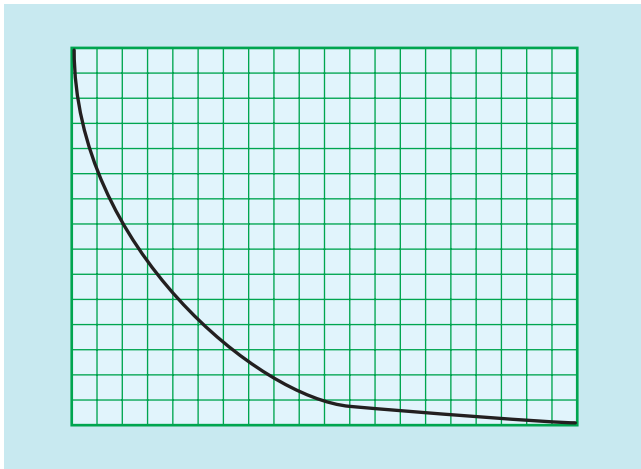
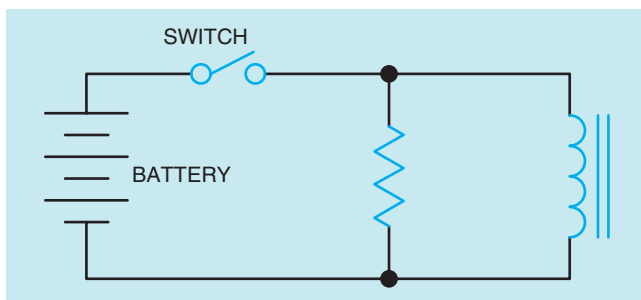

FIGURE 10-20 Current flow through an inductor decreases at an exponential rate.
FIGURE 10-21 The resistor helps prevent voltage spikes caused by the inductor.
A **voltage spike** occurs when the current flow through an inductor stops, and the current decreases at an exponential rate also (Fig. 10-20). As long as a complete circuit exists when the power is interrupted, there is little or no problem. In the circuit shown in Figure 10-21, a resistor and inductor are connected in parallel. When the switch is closed, the battery will supply current to both. When the switch is opened, the magnetic field surrounding the inductor will collapse and induce a voltage into the inductor. The induced voltage will attempt to keep current flowing in the same direction. Recall that inductors oppose a change of current. The amount of current flow and the time necessary for the flow to stop will be
determined by the resistor and the properties of the inductor. The amount of voltage produced by the collapsing magnetic field is determined by the maximum current in the circuit and the total resistance in the circuit. In the circuit shown in Figure 10-21, assume that the inductor has a wire resistance of $6\ \Omega$, and the resistor has a resistance of $100\ \Omega$. Also assume that when the switch is closed, a current of $2\ \text{A}$ will flow through the inductor. These spikes can be on the order of hundreds or even thousands of volts and can damage circuit components, especially in circuits containing solid state devices such as diodes, transistors, integrated circuits, etc. The amount of induced voltage can be determined if the inductance of the coil, the amount of current change, and the amount of time change are known, by using the formula
9. Refer to the circuit shown in Figure 10-21. Assume that the inductor has a wire resistance of 0.2 Ω and the resistor has a value of 250 Ω . If a current of 3 A is flowing through the inductor, what will be the maximum induced voltage when the switch is opened?